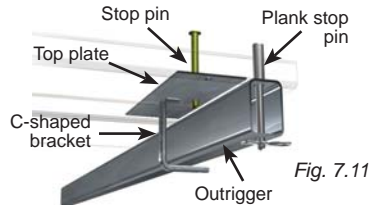

Fig. 7.11
- 1- Remove the stop pin (fig. 7.11) and slide the plank safety support between two planks.